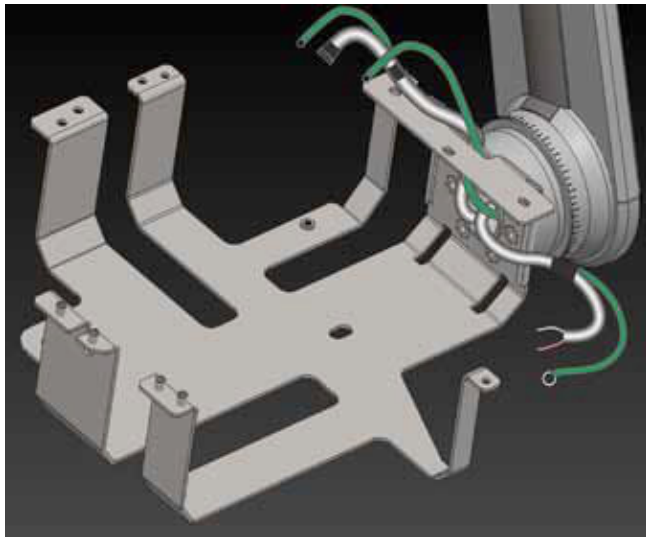

Figure 37
- Route the scissor-arm cables as shown in Figure 37.